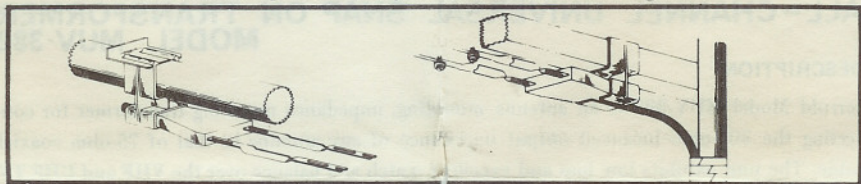

FIG. 2 MODEL MUV-382 MOUNTED ON SQUARE OR ROUND CROSSARM
3. Loosen the antenna terminal-screws and engage the slotted tabs of the straps, tighten the terminal screws, then snap the assembly onto the crossarm. See Figure 2.